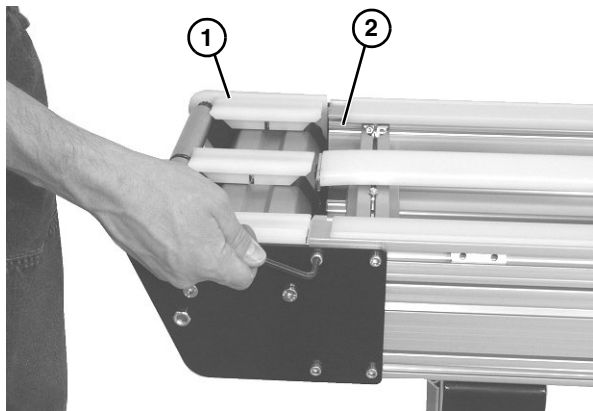

Figure 45
When reinstalling the idler spindle tail assembly, the idler terminal assembly (**Figure 45, item 1**) should be flush with the conveyor frame (**Figure 45, item 2**).